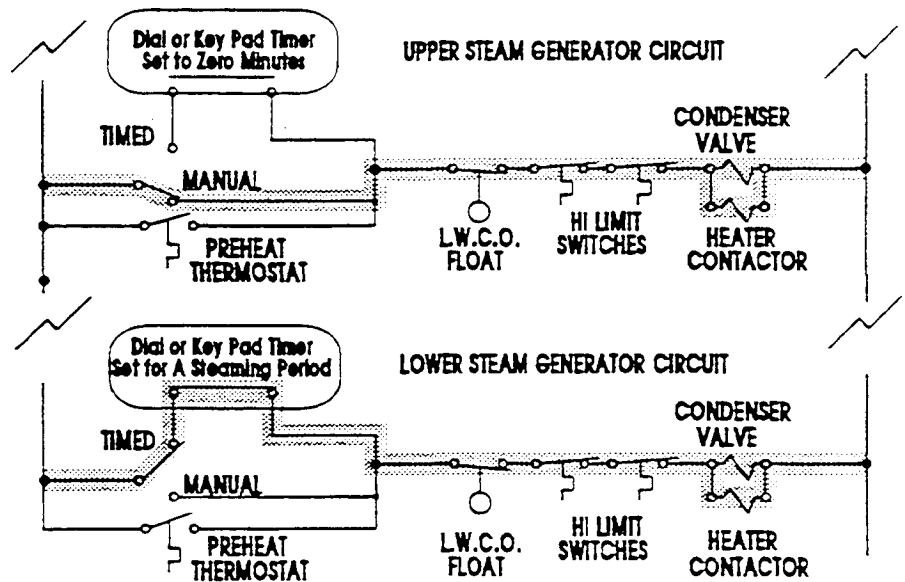

Figure 5-5. Partial Schematic Compartment Steaming Circuit
- B. The upper steam generator starts a steaming cycle when its TIMED/MANUAL switch is set to MANUAL, or a cooking time is set in TIMED mode. For this example, the upper TIMED/MANUAL switch is set to MANUAL. While the upper steam generator starts its steaming cycle, the lower generator continues its preheat cycle. Refer to Figure 5-5.
stops its preheat cycle and the starts a steaming cycle. The upper compartment continues MANUAL Steaming. Refer to Figure 5-5.